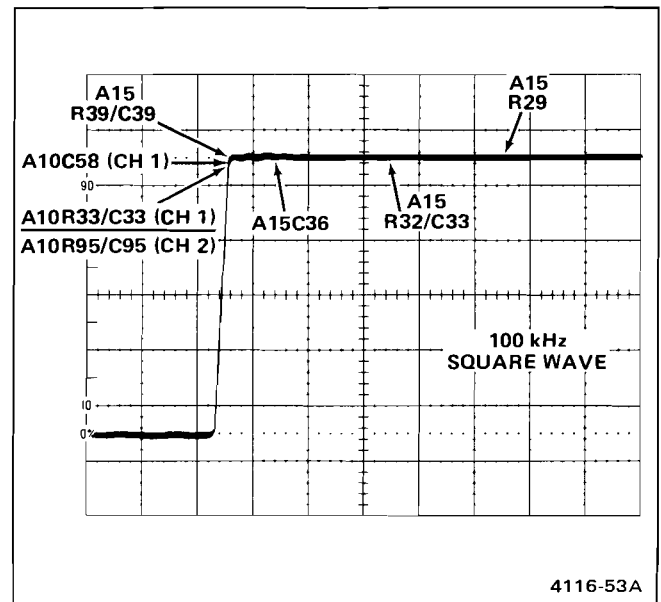

Figure 5-1. Areas affected by high-frequency compensation adjustments.
- d. CHECK—Flat-top display aberrations are within  $\pm 3\%$  (0.15 division or less). See Figure 5-1 for a typical display.
- e. ADJUST—Vertical Output Amplifier HF Compensation (R29, R32, and C33) for the best flat-top display (see Figure 5-1).
- g. ADJUST—Vertical Output Amplifier HF Compensation (C36) for the best flat-top display (see Figure 5-1).
- i. ADJUST—CH 2 Preamp HF Compensation (R95 and C95) and Vertical Output Amplifier HF Compensation (R39 and C39) for best front corner (see Figure 5-1).
- k. ADJUST—CH 1 Preamp HF Compensation (R33, C33 and C58) for best front corner (see Figure 5-1) NOTE: C58 affects the same area on the waveform as C33 and R33 do. C58 is located just to the right of Q57 (see ADJUSTMENT LOCATIONS 1 and Figure 9-7).